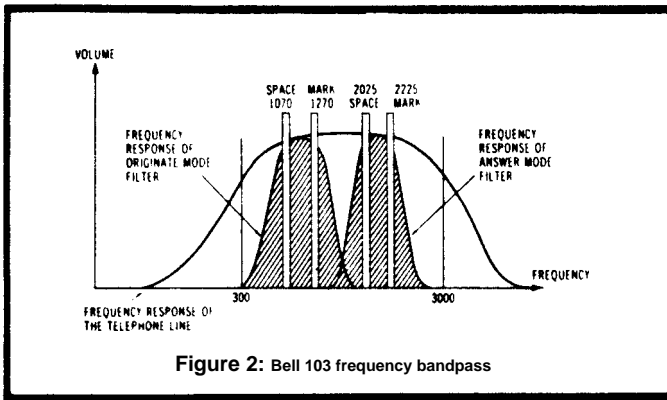

Figure 2: Bell 103 frequency bandpass
•**Bell-compatible:** Most (but not all) of the data communication standards were developed by Bell Labs and are known as "Bell standards;" i.e: the common 300 baud standard is described as "Bell 103" (see Figure 2). Any Bell